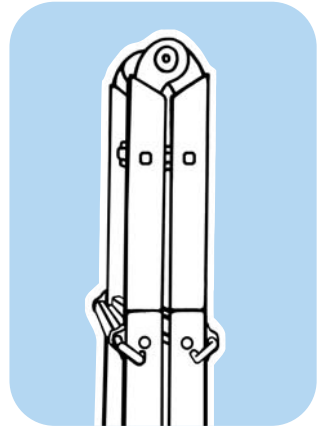

Figure C-3
6. Alternate hands and perform the same operation with the other Lock Tab Assemblies (See figure C-3).